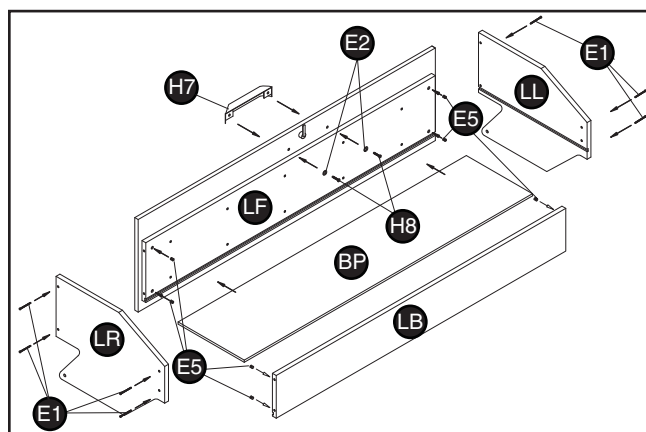

Figure 2. Tilt-drawer assembly.
1. Insert eight (E5) barrel nuts into panels (LF & LB), and assemble the drawer with eight (E1) screws in the orientation shown in **Figure 2**.